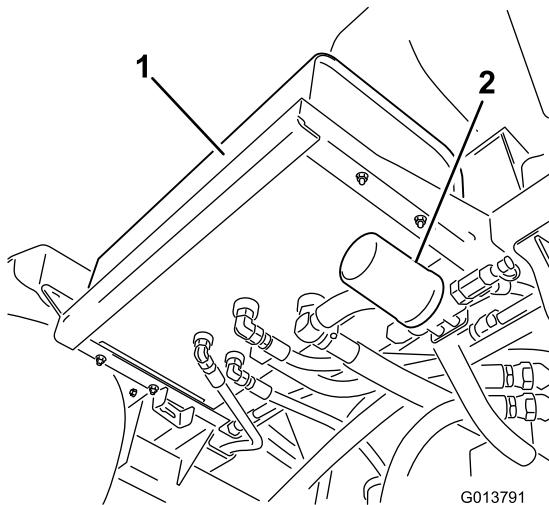

Figure 109
2. Locate the 2 hydraulic filters on the machine (Figure 109 and Figure 110).